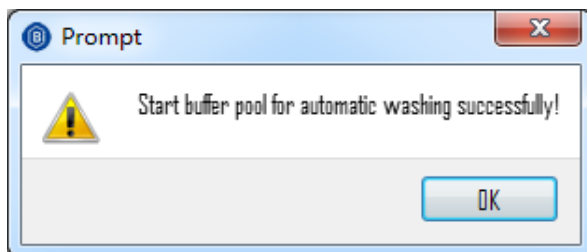

Figure.8.7.22 Start buffer pool fill-up
- Select **Start buffer pool fill-up** and click **Execute**. A dialog box will pop up, as shown in Figure 8.7.22.